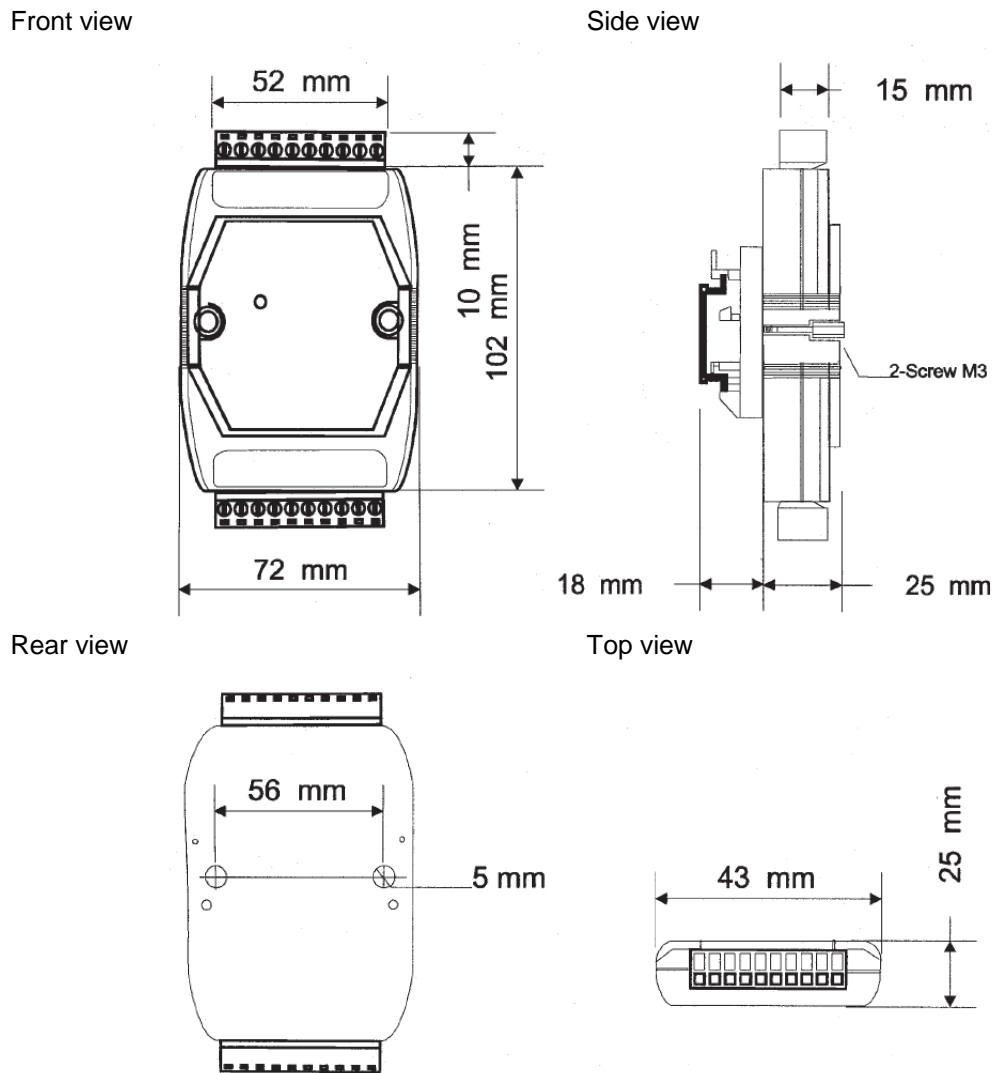

Fig. 38. Dimensions of the ICP-modules
3. Remove the wire jumper between pins 1 and 3 of the connector (figure 38).